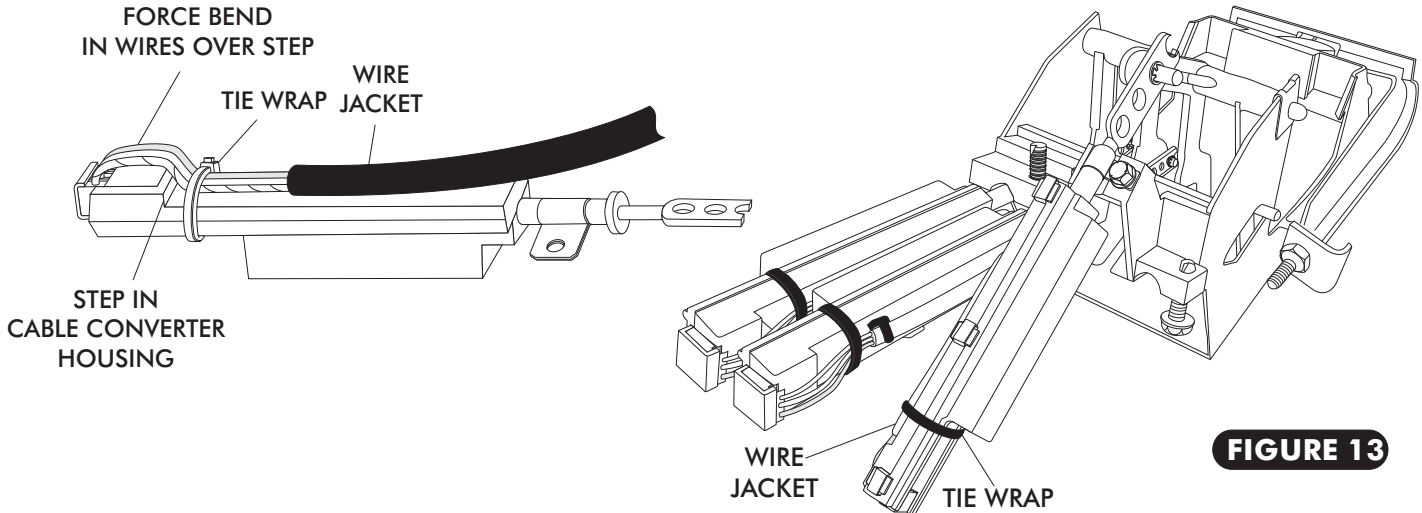

FIGURE 13
- ONCE WIRES ARE CORRECTLY PLUGGED INTO CABLE CONVERTER ASSEMBLY, SECURE WIRES TO THE CABLE CONVERTER ASSEMBLY USING TIE WRAPS (SUPPLIED). SEE FIGURE 13 BELOW. THE TIE WRAP MUST BE LOCATED BETWEEN THE END OF THE WIRE JACKET AND THE STEP IN THE CABLE CONVERTER HOUSING FORCING A BEND IN EACH WIRE AS THEY PASS OVER THE STEP IN CABLE CONVERTER HOUSING. HEAD OF TIE WRAP MUST FALL ON EDGE OF HOUSING AS SHOWN TO REMAIN TIGHT. ENSURE THAT THE TIE WRAPS ARE SNUG ENOUGH THAT THE WIRES CANNOT MOVE. SEE FIGURE 13.